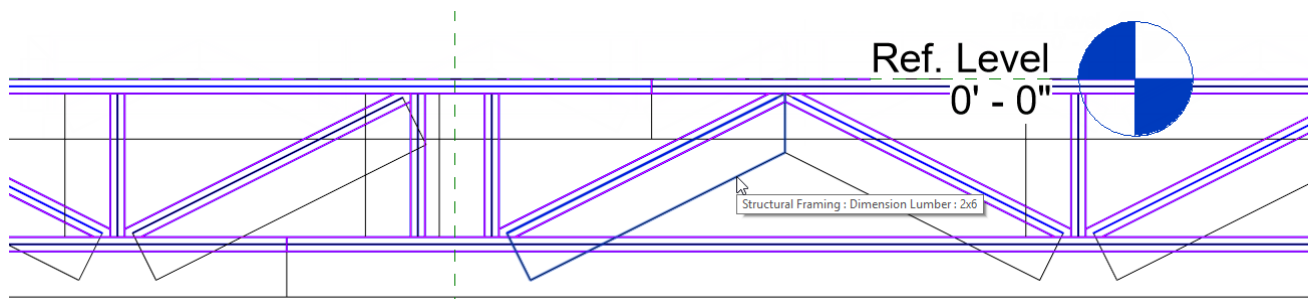

FIGURE 87
15. Position your windows so you can see the Revit window to observe the results (see Figure 87).